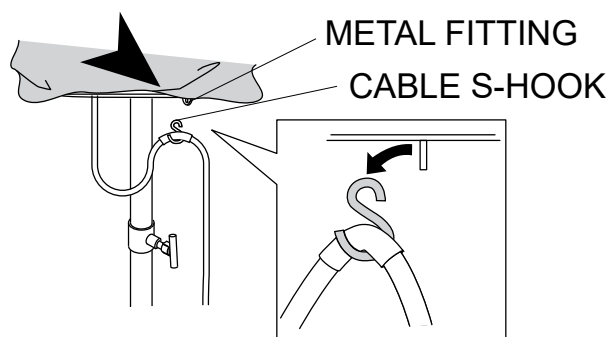

Figure 33. Removing Cable S-Hook
1. Take the cable s-hook from the metal fitting located at the bottom of the balloon (Figure 33).